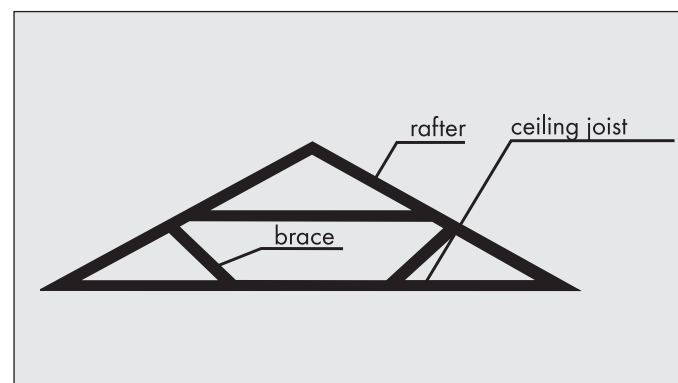

Fig.2. Typical construction of the roof with braces connected to the ceiling joists.
**WARNING! DO NOT CUT THIS TYPE OF CONSTRUCTION (FIG. 2, 3) WITHOUT PRIOR CONSULTATION WITH AN ARCHITECT.**